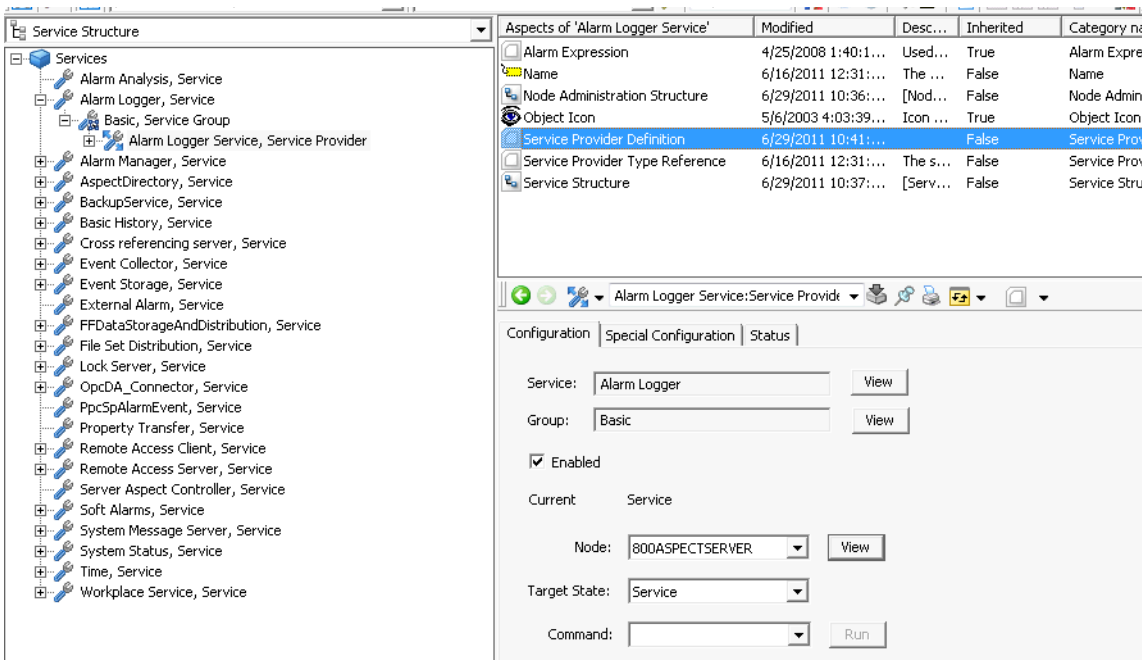

Figure 62. Service Provider Definition Aspect - Configuration Tab
5. Select the Service Provider object, see Figure 62, and open the Service Provider Definition aspect.